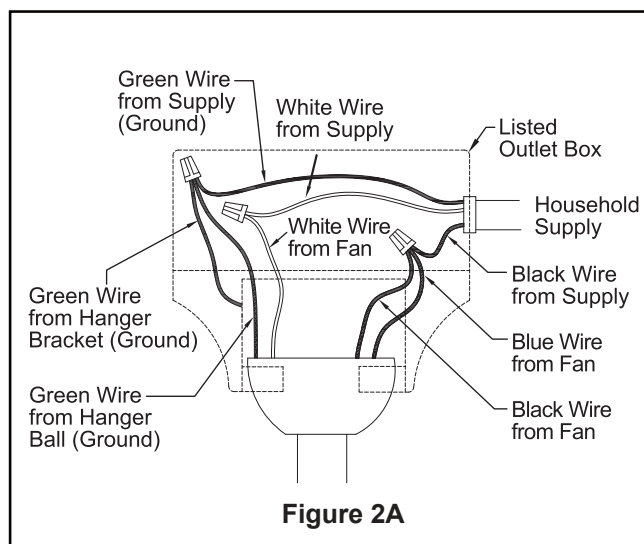

Figure 2A
1. Connect the green grounding lead from the downrod and the green grounding lead from the hanger bracket to the supply grounding conductor (this may be a bare wire or wire with green colored insulation). Securely connect wires with wire connector. Securely connect the white fan motor wire to the white supply (neutral) wire using wire connector. Securely connect the black fan motor wire and blue wire to the black supply wire using wire connector. (Figure 2A)
- ☐ 2A. Install the fan pull chain. (Figure 2A)